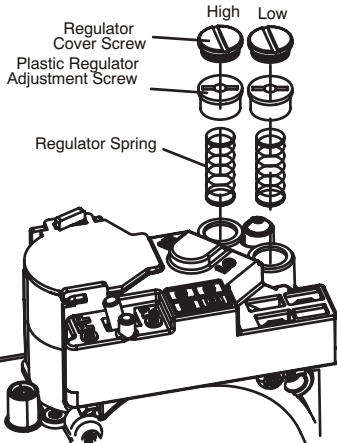

FIGURE 7
- a - Remove both high fire and low fire springs from the gas valve. See figure 7.